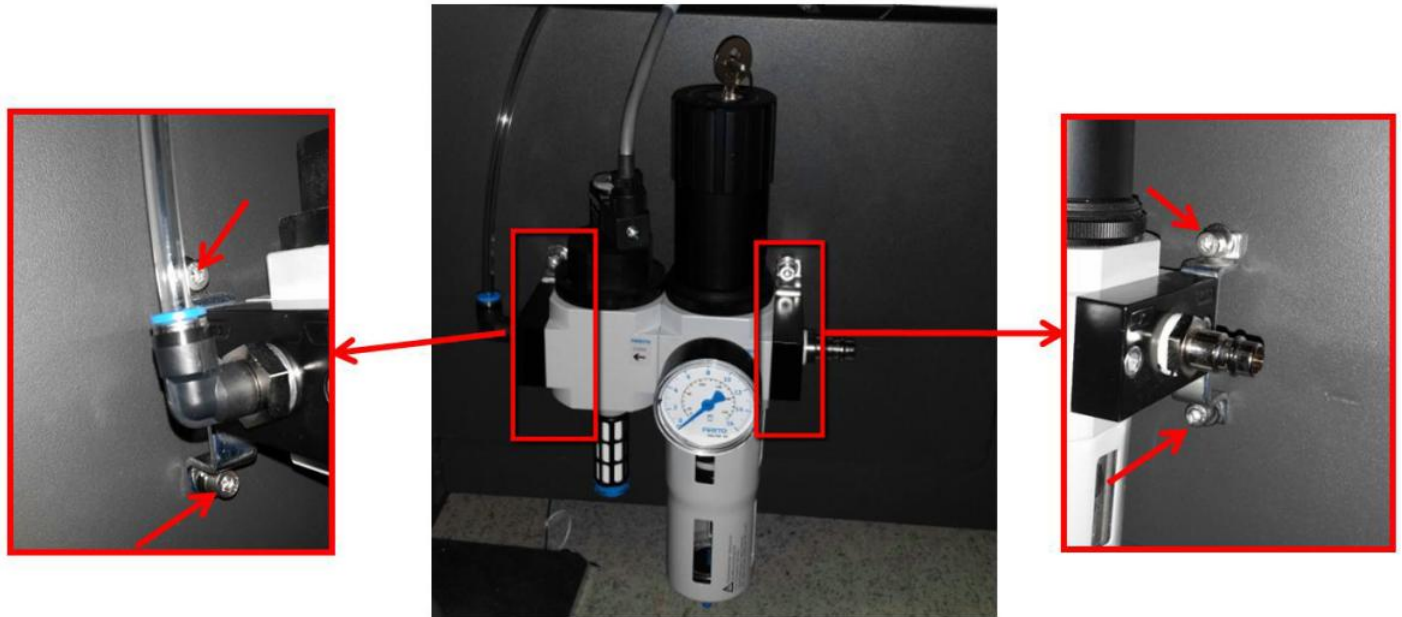

Figure 6 Air Pressure Regulator Removal
6. Remove 4 x Screws to remove the Air Pressure Regulator from the base frame. May refer to below Figure 6.